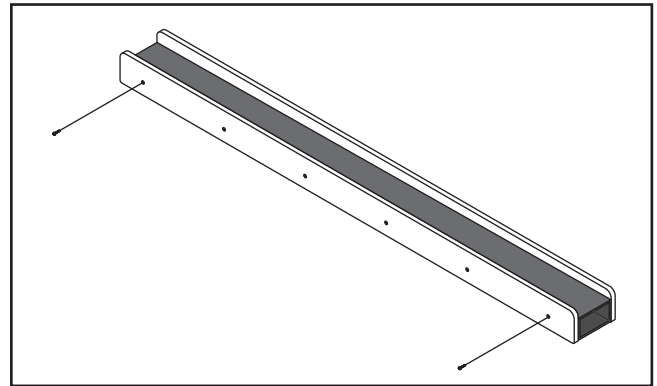

Figure 20. Reattaching fence face.
- Re-attach the fence face at both ends, as shown in **Figure 20**.